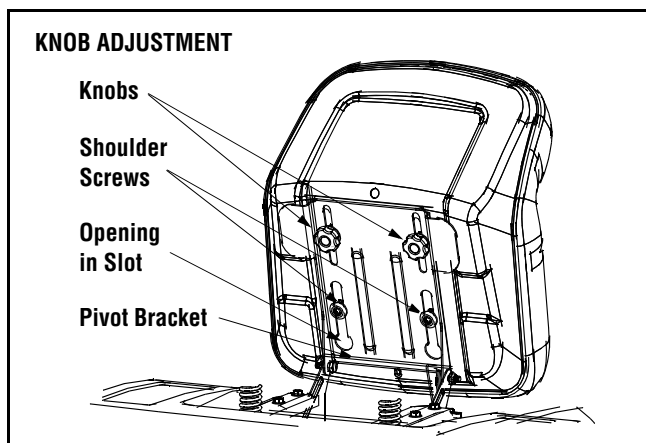

Figure 5
- Position the shoulder screws (found on the base of the seat) inside the slot openings in the seat pivot bracket. See Figure 5.
- Select desired position for the seat, and secure with the two knobs removed earlier. See Figure 5.